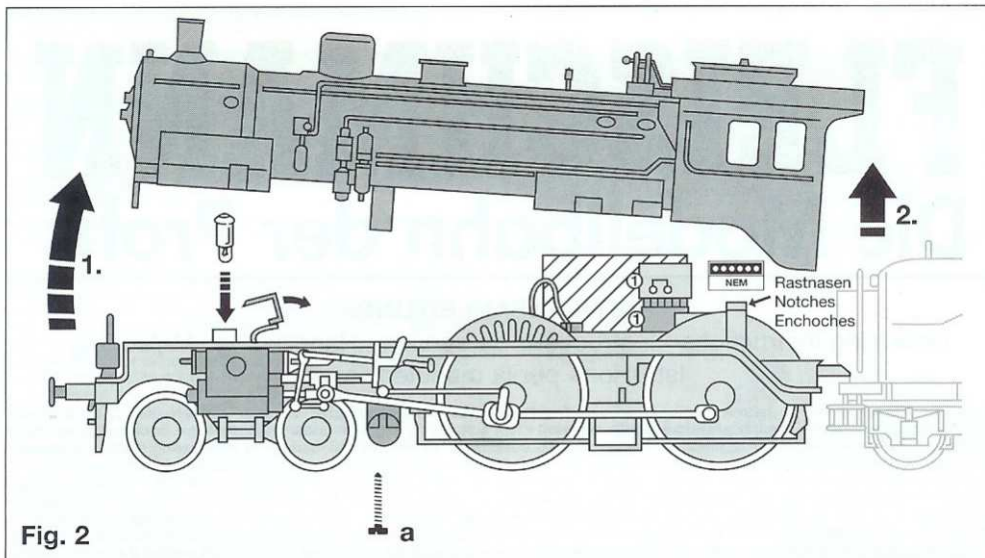
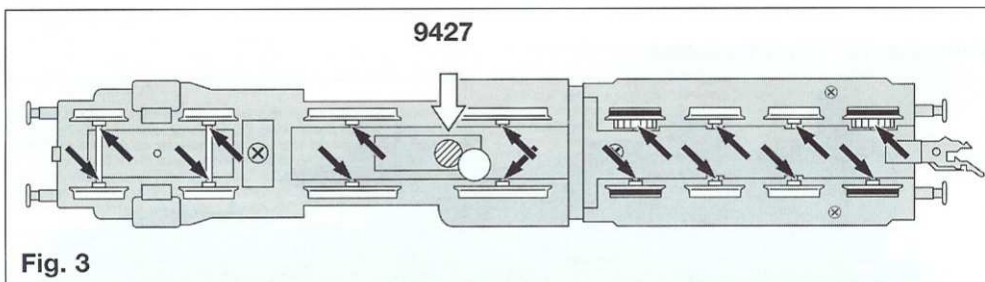

Fig. 2
Fig. 3
Ein Öffnen der Lok ist nur zum Lampenwechsel und zum Einbau eines digitalen Empfängerbausteins erforderlich. Die Schraube a lösen und das Gehäuse nach oben abheben (Fig.2).
**Lampenwechsel:** Lampenhalterung abklipsen und Glühlampe nach oben herausnehmen (Fig.2).
An der markierten Stelle kann der **Schaltmagnet 9427** eingebaut werden (Fig. 3).
**Ölen:** Geölt werden nur die gekennzeichneten Schmierstellen (Fig. 3). **Die Motorlager dürfen unter keinen Umständen geölt werden!**
**Opening the loco** is only necessary to change the bulb and for the installation of a digital receiver. Remove screw **a** and lift the loco body upwards (fig. 2). • **Changing the bulbs (loco):** Unclip the bulb holder and pull the bulb upwards to remove it (fig. 2). **Spare bulbs: 6535** • **Installing the digital decoder:** A 6-pole DECODER (DCC: 6876, TWIN: 6846) (NEM 651) can be glued onto the cross-hatched metal surface. Please consult the instructions included with the DECODER for fitting advice. • The indicated point can be used for locating the switching magnet 9427 (fig. 3). **Spare traction tyres: 54 4007** • **Lubrication:** Only the indicated points should be oiled (fig. 3). • **Under no circumstances should the motor be oiled!** • Only use **FLEISCHMANN-oil 6599**. Only put a tiny drop in each place (→), otherwise it will be overoiled. An applicator needle is located in the cap of the oil bottle for your use. • **Opening the tender** is only necessary to change the bulb, oil the gear train and to change the motor. Remove screw **b1-3** and lift the tender body upwards (fig.4). • **The motor brushes cannot be changed!** • **Changing the motor:** Gently bend open the motor retainer clip and remove. Lift up the motor and take it out (fig. 4). When installing the new motor, please take care to insert the new motor the right way round. The red/black markings on the motor indicate the correct position. **Exchange motor: 50 4113** • **Changing the bulbs (tender):** Unclip the bulb holder and pull the bulb upwards to remove it (fig. 5). **Spare bulbs: 6535** • **Exchanging the coupling at the front:** A coupling can be mounted on the front end of the loco as well. A PROFI-coupling and coupling bar are included. Remove the train hook **c** and rail guards **d** by simply pulling them out. Insert the coupling bar **e** into the front bogie, clipping it into position. Finally, the PROFI-coupling can be clipped into the coupling bar (Fig. 6). **Coupling bar set: 384113** • **Clip-in exchange coupling: 6511** • **FLEISCHMANN PROFI clip-in coupling: 6515** • **Exchange coupling (tender):** 1.Pull off in direction of arrow. • 2.Insert exchange coupling in direction of arrow until clipped into position. • **Clip-in exchange coupling: 6511** • **FLEISCHMANN PROFI clip-in coupling: 6515**
La locomotive ne doit être ouverte que pour le remplacement de l'ampoule et pour l'installation d'un decodeur digital. Enlever les vis **a** et retirer la carrosserie en la soulevant (fig. 2). • **Remplacement de l'ampoule (loco):** Désenclipser la douille de l'ampoule et retirer cette dernière par le haut (fig. 2). **Ampoule de rechange: 6535** • **Montage d'un module récepteur digital:** L'équerre métallique (zone hachurée) permet de coller un DECODER (DCC: 6876, TWIN: 6846) (NEM 651) à 6 pôles. Pour le montage, se référer au mode d'emploi du DECODER. • L'aimant permanent 9427 peut être monté à l'endroit indiqué (fig. 3). **Bandages de rechange: 54 4007** • **Lubrification:** Les axes et l'embiellage seront huilés aux endroits repérés (fig. 3). • **Ne jamais lubrifier le moteur!** • N'utilisez que l'huile recommandée **FLEISCHMANN 6599**. Une seule goutte par point à lubrifier (→) afin d'éviter tout excès. L'aiguille montée dans le bouchon du petit flacon convient parfaitement à cet usage. • **Une ouverture du tender** est indispensable pour remplacer les lampes, lubrifier le mécanisme et remplacer le moteur. Enlever les vis **b1-3** et retirer la carrosserie an la soulevant (fig. 4). • **Les charbons du moteur ne doivent pas être remplacés!** • **Remplacement du moteur:** Déformer légèrement les clames de maintien du moteur et enlever. Retirer le moteur vers le haut (fig. 4). Au remontage veiller à ce que le moteur pose correctement dans le logement. Tenir compte du marquage rouge/noir sur le moteur. **Moteur de remplacement: 50 4113** • **Remplacement de l'ampoule (tender):** Désenclipser la douille de l'ampoule et retirer cette dernière par le haut (fig.5). **Ampoule de rechange: 6535** • **Attelage à l'avant :** Il est aussi possible de monter un attelage en tête de locomotive grâce à l'attelage PROFI et le timon d'attelage fournis. Retirer le crochet d'attelage **c** et le chasse-pierres **d** tout simplement en les tirant. Introduire le timon d'attelage **e** dans le bogie avant et l'enclipser. Ensuite, enclipser l'attelage PROFI dans le timon d'attelage (fig.6). • **Timon d'attelage fournis: 38 4113** • **Attelage à emboîtement d'autres marques: 6511** • **FLEISCHMANN PROFI-attelage à emboîtement: 6515** • **Changement des attelages (tender):** 1.Retirer dans le sens da la flèche. 2.Replacer le nouvel attelage jusqu'à enclanchement de la butée. • **Attelage à emboîtement d'autres marques: 6511** • **FLEISCHMANN PROFI-attelage à emboîtement: 6515**
**Het demonteren** van de lok is alleen voor het vervangen van het lampje en de inbouw van een digitale ontvangerbouwsteen noodzakelijk. Schroef **a** losdraaien en de kap naar boven losnemen (fig. 2). **Het verwisselen van de lampjes (loc):** Lamphouder los maken en gloeilampje naar boven wegnemen (fig. 2). **Reservelampje: 6535** **Het inbouwen van een digitale ontvangerbouwsteen:** In de metalen uitsparing (gearceerde oppervlakte) kan een 6-polige DECODER (DCC: 6876, TWIN: 6846) (NEM 651) gemonteerd worden. Bij het inbouwen a.u.b. de handleiding van de DECODER raadplegen. **Op de gemerkte plaats kan de schakelmagneet 9427 gemonteerd worden (fig. 3).** **Antislip-bands: 54 4007** **Oliën:** Alleen de gekenmerkte plaatsen smeren (fig. 3). **De motor mag absoluut niet worden gesmeerd!** Alleen **FLEISCHMANN-olie 6599** gebruiken. Een klein druppeltje per smeerpunt (→) is heus voldoende, anders wordt de zaak te vet. Voor een juiste dosering het spuitje gebruiken dat wordt bijgeleverd in het olieflasje. **Het openen van de tender** is alleen voor het vervangen van het lampje, van de motor en het smeren van de aandrijving noodzakelijk. Schroeven **b1,3** losdraaien en het tenderhuis naar boven losnemen (fig. 4). **De koorborsels van de motor hoeven niet te worden vervangen!** **Het vervangen van de motor:** Motorhouderklem voorzichtig buigen en wegnemen. Motor naar boven toe losnemen (fig. 4). Let bij het inbouwen van de nieuwe motor op een juiste montage door middel van de rood/zwarte markering op de motor. **Reservemotor: 50 4113** **Het verwisselen van de lampjes (tender):** Lamphouder losmaken en gloeilampje naar boven wegnemen (fig. 5). **Reservelampje: 6535** **Het vervangen van de koppeling aan de voorzijde:** Ook aan de voorzijde van de loc kan een koppeling worden gemonteerd. Hiertoe worden een PROFI-koppeling en een koppelingsadapter bijgeleverd. Trekhaak **c** en sneeuwuimer **d** voorzichtig lostrekken. De koppelingsadapter **e** in het voorste draaistel klikken. Vervolgens kan de PROFI-koppeling in de koppelingsadapter worden gestoken (fig. 6).
**At öppna loket** fordras endast för byte av glödlampa och indbygning af digital modtagerenhed. Avlägsna skruvarna **a**. Ta av kåpanlodrätt uppåt (fig. 2). **Udskiftning af pære (lokomotiv):** Holderen clipses af, og pæren trækkes ud (fig. 2). **Udskiftningspære: 6535**
**Indbygning af digital modtagerenhed:** Den 6-polede DECODER (DCC: 6876, TWIN: 6846) (NEM 651) kan limes på metalvinklen som vist på det skraverede felt. Følg vejledningen vedlagt DECODEREN. **Kontaktmagneten 9427** kan monteres på det markerede sted (fig. 3). **Hæfteringe: 54 4007** **Smøring:** Smør kun aksler på de viste steder (fig. 3).
Rimuovere le viti **a** e sollevare verso l'alto il mantello (fig. 2). **Sostituzione della lampada (locomotiva):** Asportare la calotta ed estrarre la lampada dall'alto (fig. 2). **Lampada di ricambio: 6535** **Montaggio di un modulo di ricezione digitale:** è possibile incollare un **DECODER (DCC: 6876, TWIN: 6846) (NEM 651)** a 6 poli sulla squadra metallica (superficie tratteggiata). Prima di procedere al montaggio, consultare il manuale di funzionamento del DECODER. **Sul posto segnato può essere installato il dispositivo di comando 9427 (fig. 3).** **Anelli di attrito: 54 4007** **Lubrificazione:** Lubrificare le assi e i tiranti solo nei punti contrassegnati (fig. 3).